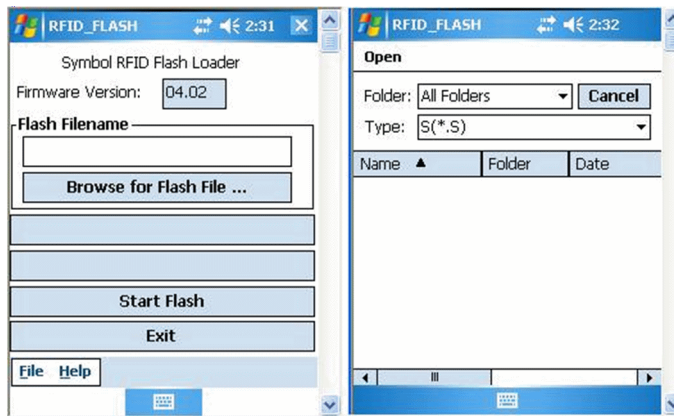

Figure 4-18 RFIDFlash Loader Windows
2. From main *Explorer* window (Figure 4-16) click *Application* > *RFIDFLASH* to access the *RFIDFlash* utility. The *RFIDFlash* loader window appears (see Figure 4-18).